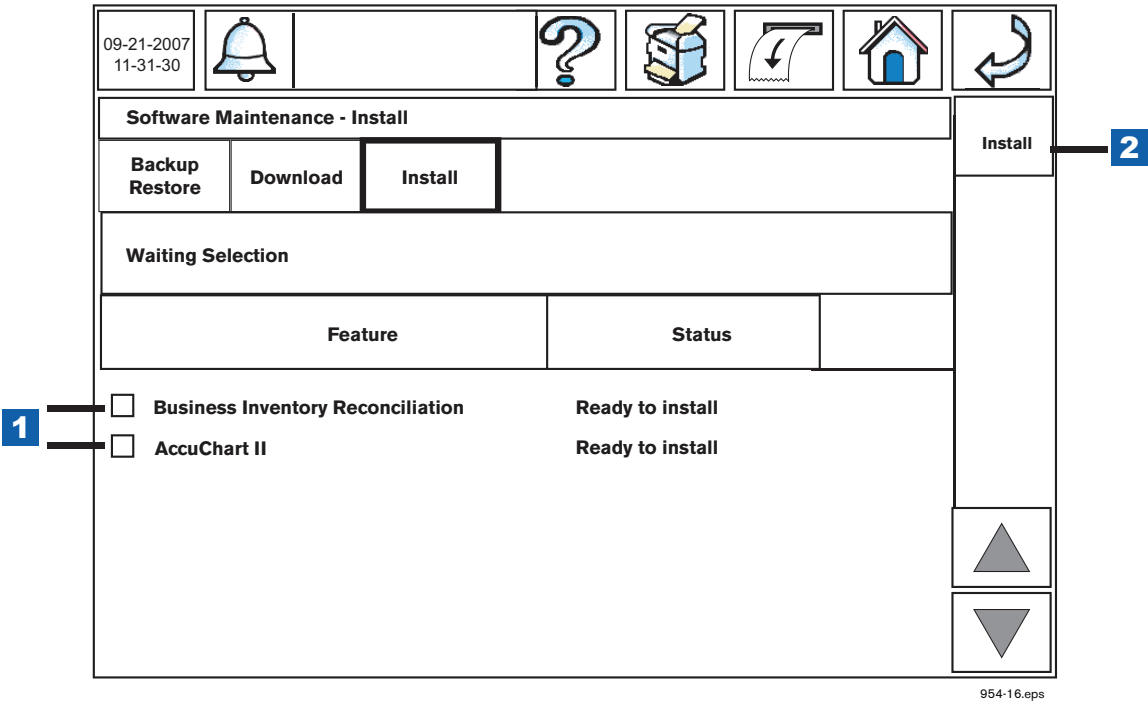

Figure 11. Installing Software Features
5. Once the download process completes, touch the Install tab. Touch the check boxes beside the feature(s) you wish to install (item 1s in Figure 11). Once you have selected the desired features to install, touch the Install button (item 2 in Figure 11).
LEGEND FOR NUMBERED BOXES IN Figure 11